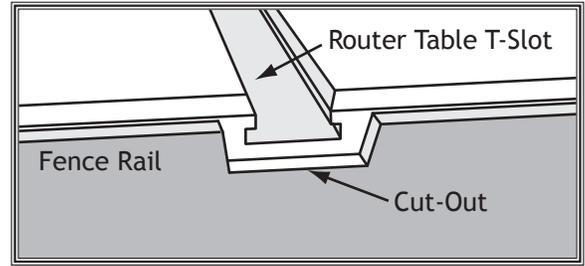

Figure 7. Illustrated example of a fence modification.
5. If you have long fence rails that will extend beyond the T-slots of the router table, you will have to modify the top of the rails. This entails making a cut-out that matches or exceeds the dimensions of the router table T-slot, as shown in the illustration in **Figure 7**.